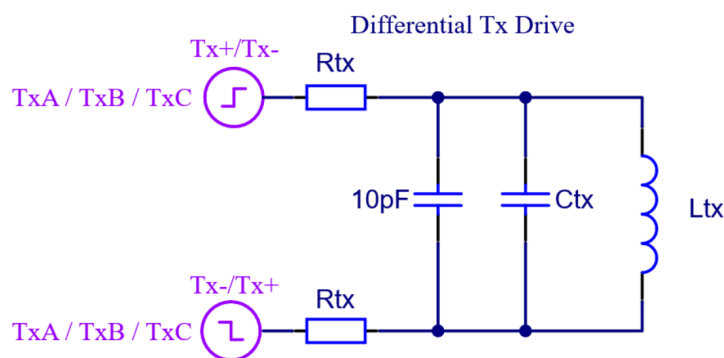
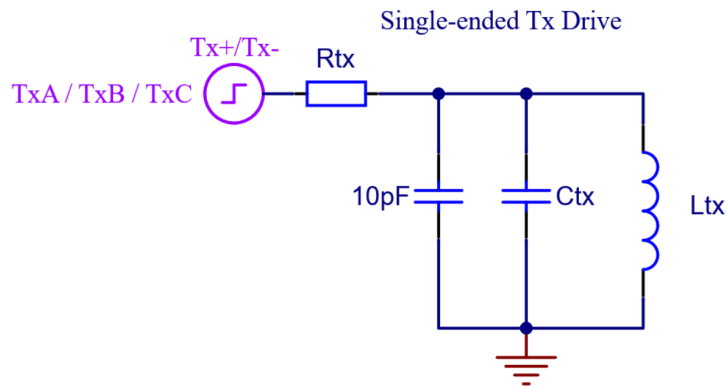

Figure 8.1: Differential Tx Coil Driving
Figure 8.2: Single-Ended Tx Coil Driving
Various pin configurations are possible for driving the Tx coil. Figures 8.1, 8.2 and 8.3 illustrate these configurations.
The differential drive, as shown in Figure 8.1, is the recommended configuration, where one Tx+ and one Tx- are connected to arbitrary sides of the Tx coil. This configuration provides the most driving power and can increase measurement resolution.
The single-ended drive, as shown in Figure 8.2, is achieved by connecting one Tx coil end to GND and another to the Tx+/Tx- pin. While this configuration may reduce the power consumption of conversions, it will also decrease the signal strength on the Rx coil side. This configuration may also be necessary if the received signals are too large. A large series capacitor may also be used to reduce power consumption further.
Single-ended drive is also possible while connected to the IQS370. This is achieved by connecting one Tx coil end to an inactive pin and another to a Tx+/Tx- pin. This mode of operation adds additional series resistance to the Tx coil circuit, thereby increasing the quality factor (Q) of the resonator. This mode of operation is only recommended for testing purposes. A final design should utilise the circuit topologies of either Figure 8.1 or Figure 8.2.